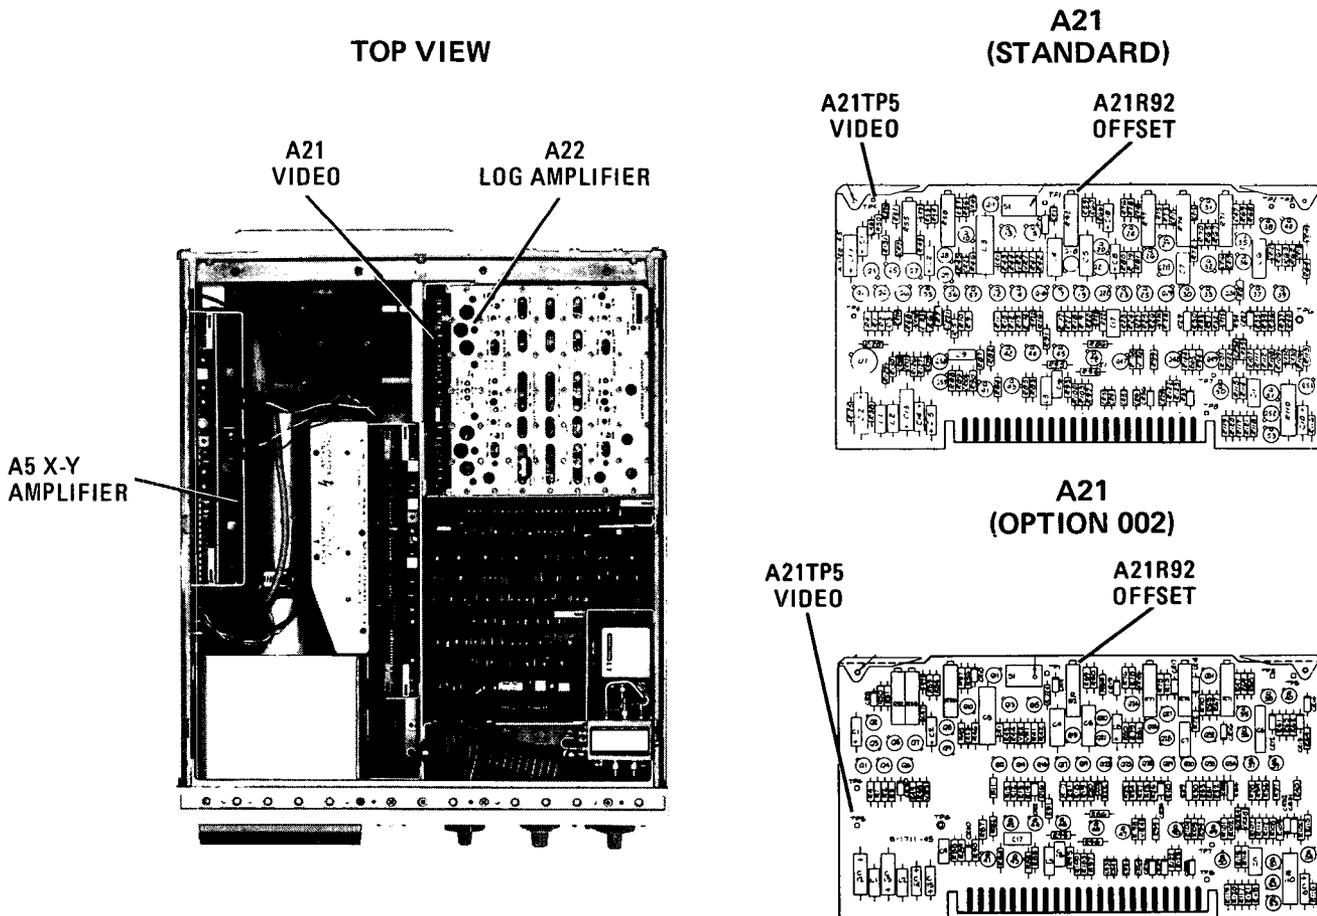

Figure 7-2. Video Offset Adjustment Locations
7. Adjust A5R27 VERT GAIN (Figure 7-2) to set signal level on REFERENCE LEVEL graticule line. (Refer to Horizontal and Vertical Gain Adjustments.)